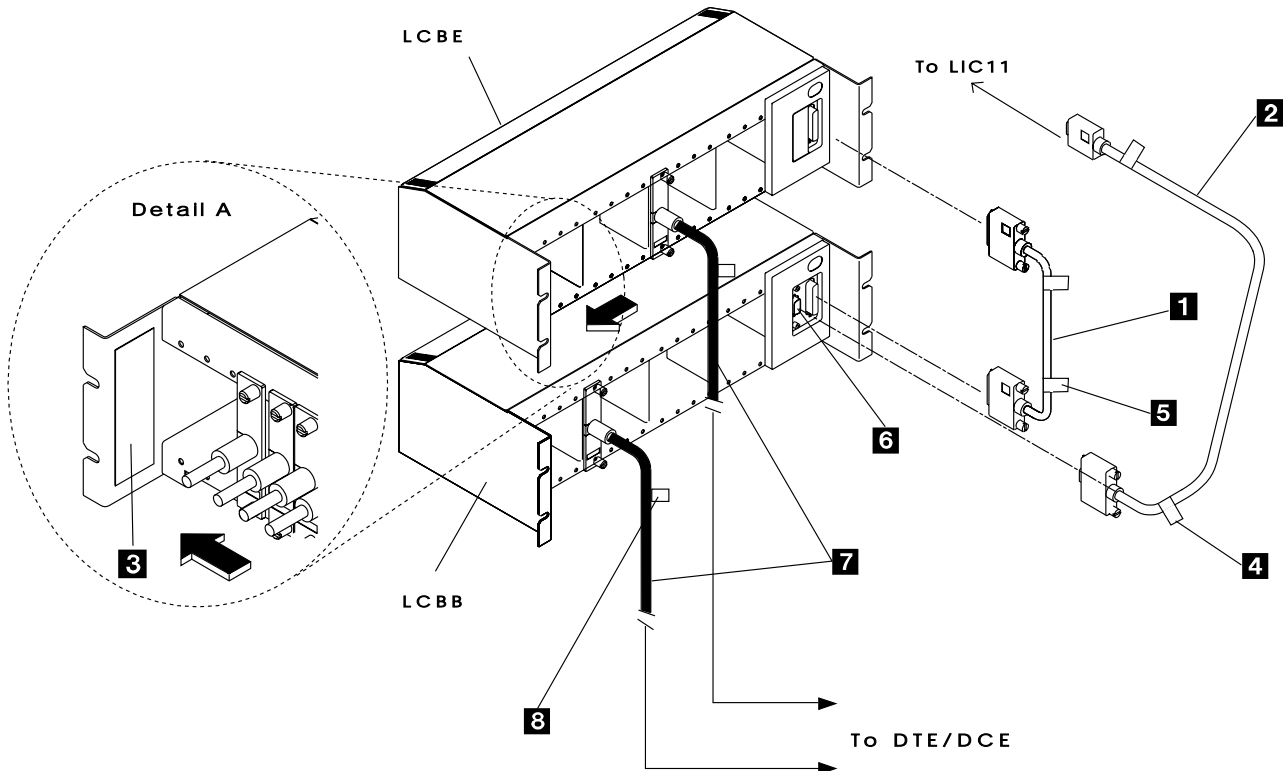

Figure 4-7. LCBB and LCBE Connection
2. \_\_\_\_ Start **installing** the LCBs **from the bottom** of the rack. The LCBE is always installed on top of its associated LCBB (see Figure 4-7).
5. \_\_\_\_ **Stick** the label on the LCB (see detail A **3** in Figure 4-7).
6. \_\_\_\_ If you have installed one LCBB and one LCBE, **install** cable **1** (PN 58G5700) between the LCBB and the LCBE. This cable is part of the LCBE shipping group (see cable **1** in Figure 4-7 on page 4-8).
Install the LIC11-to-LCBB cables (see cable **2** in Figure 4-7 on page 4-8) as follows: